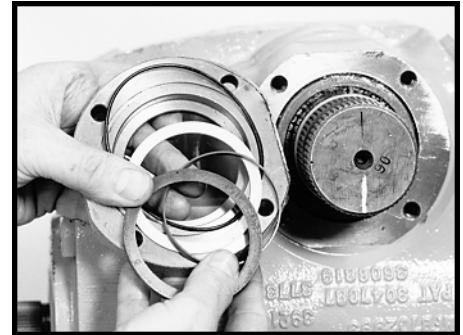

Figure 43
5. Remove the trunnion cover (25). Remove and discard the seal ring (22), the two piece sector shaft seal (23) and the Teflon back-up washer (24) from the trunnion cover. SEE FIGURE 43.